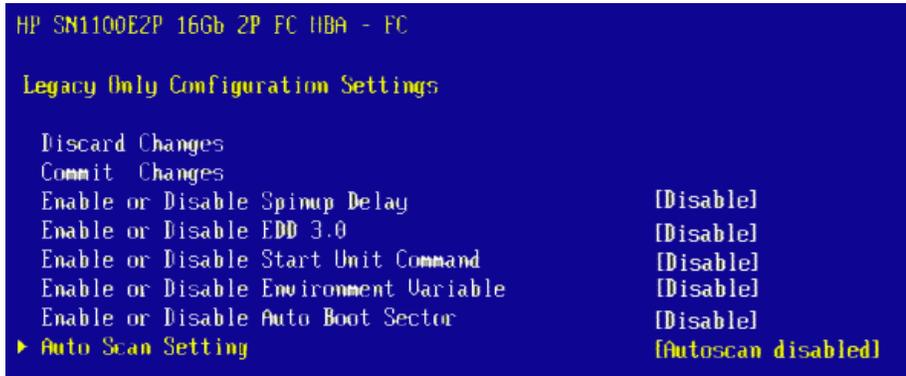

Figure 6-24 Legacy Only Configuration Settings Screen
3. A screen appears displaying settings that apply only to the Emulex Legacy boot driver (Figure 6-24 on page 69).
Refer to the “Emulex BIOS Utility” on page 25 for a description of the Legacy Only settings displayed in Figure 6-24 on page 69.